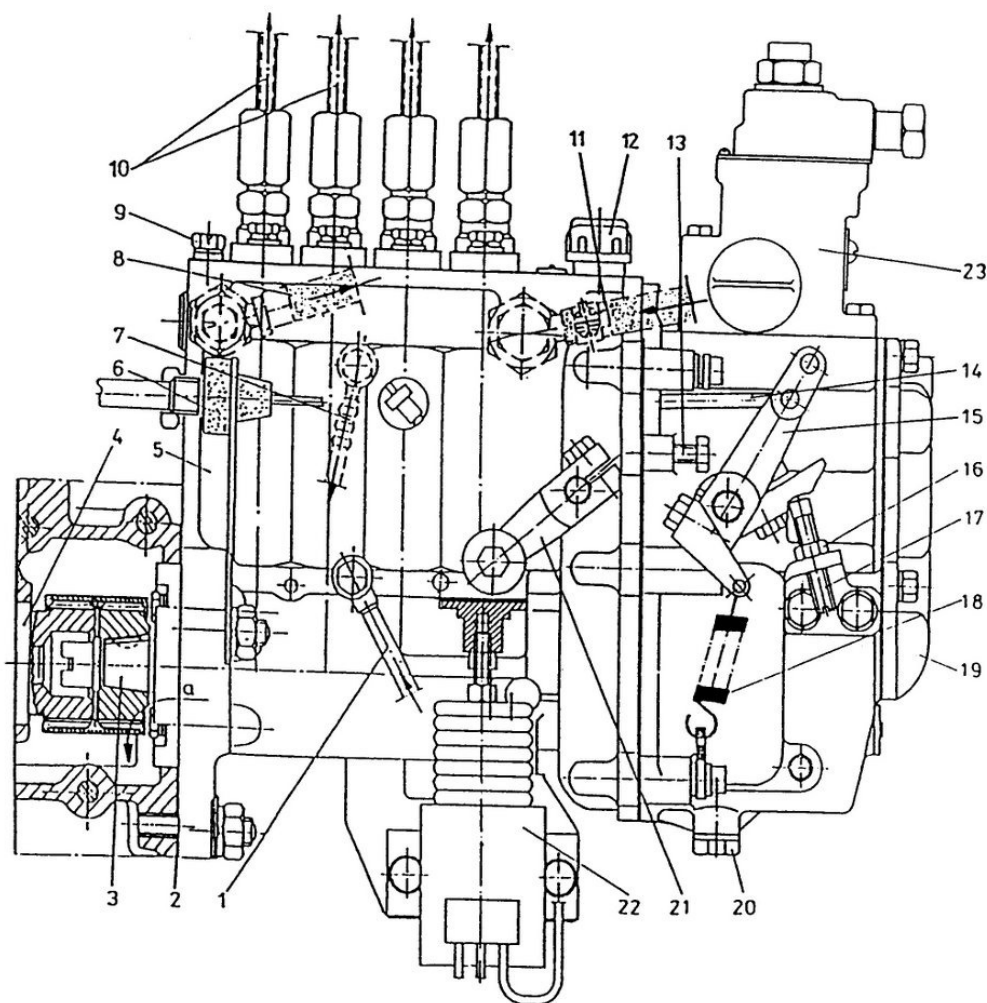

Fig. 45. Injection pump
Engines 4C90 and 4CT90-1 are equipped with an injection pump, in-line type, produced in Czech Republic — Motorpal Jihlava (Fig. 45).
A pump regulation should be performed by an authorised workshop equipped with suitable devices and instruments. The workshop should be also authorised by Motorpal Jihlava. Some basic data taken from a regulation instruction are in Tables 22 and 23. An injection pump for a turbocharged engine (3176) has additionally an overpressure corrector (23, Fig. 45) mounted on the speed governor. Its operation is similar to operation of a negative corrector it means it decreases a fuel dose when decreases an engine speed. It decreases an emission of smoke. This corrector serves also as a limiter of a fuel dose at sudden acceleration when a turbocharger supplies a small amount of an air because of a low engine speed. Injection pumps used for an engines 4C90 have not any overpressure corrector.
An injection pump (and an engine) can be switched off by pulling (towards) a cable handle by slightly depressed an acceleration pedal. A released control lever (14, Fig. 45) moving beyond idle speed position shifts an angle lever, a free lever and a control rod rack in a rear extreme position STOP.
Since the February 1, 1996, injection pumps are equipped with a STOP lever (21, Fig. 45) controlled by an electromagnetic mover (servo) (22).
After switching an ignition switch on to a starter terminal „50” and to an electromagnetic servo pulling winding (white wire) delivered is simultaneously the same voltage. After drawing a servo core (to a position shown in Fig. 45) an inner microswitch switches a voltage of an ignition switch to a supporting winding (red wire). It ensures that after switching an engine on and after return of a key to a position „I” a mover remains switched on and a STOP lever remains in position „WORK” (as it is
shown in Fig. 45). To stop an engine it is necessary to turn a key to position „O”. It causes disconnection of voltage and an inner spring will shift a STOP lever in a „stop” position.